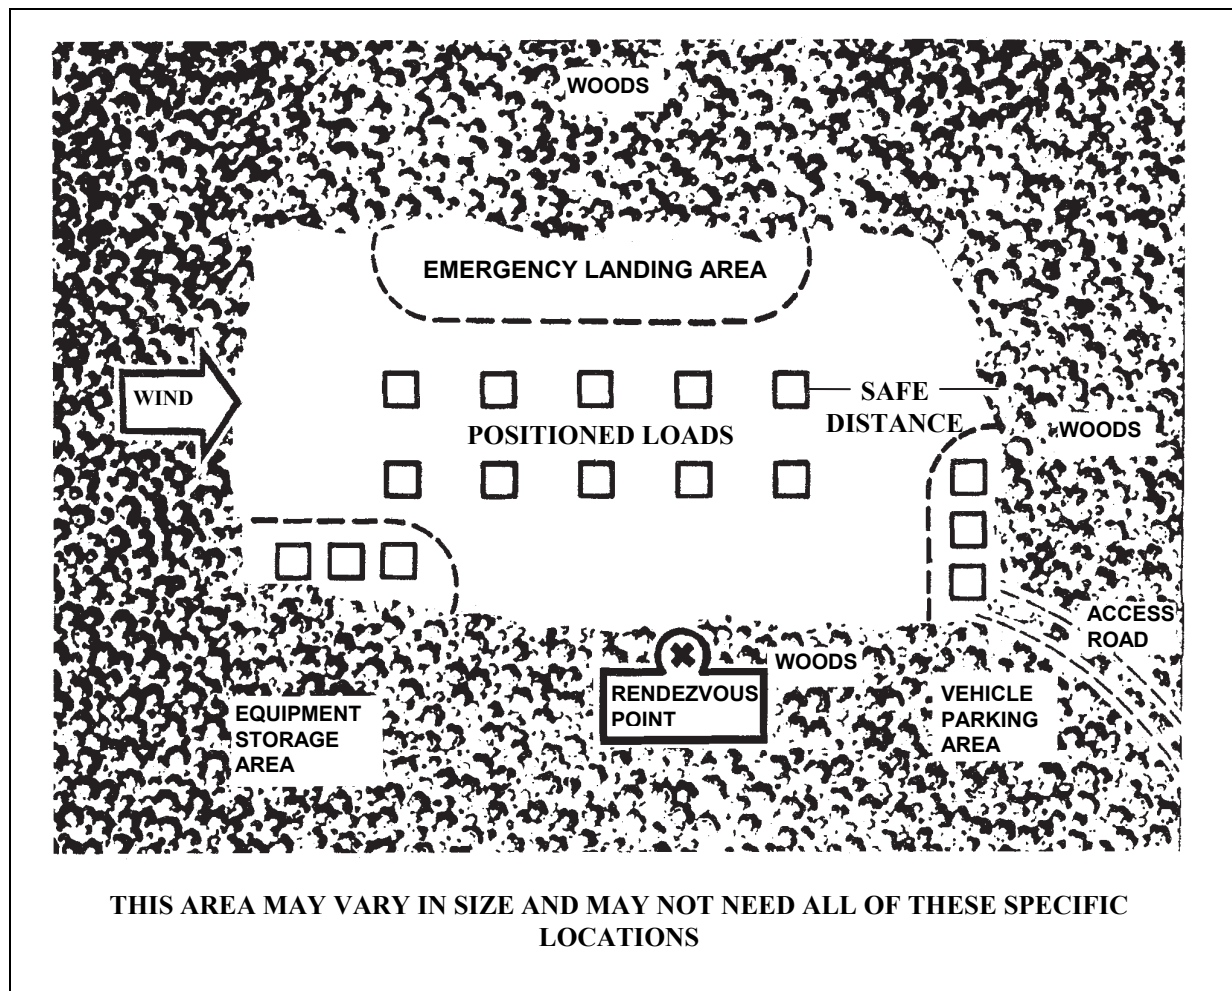

Figure 3-5. Typical Layout of a Landing Site
- **Working Area.** Ground crew personnel should make every effort to work at the side of the load closest to the rendezvous point so that during an emergency they can clear from under the aircraft without climbing over or moving around the load. Ground personnel may or may not be told to clear the aircraft by a crew member in the event of an emergency. If the pilot is able, he will rapidly flash the landing light as a visual warning to the ground crew to clear the aircraft. All personnel involved with the sling load mission must exercise sound judgment and common sense in positioning themselves so that if the load should be accidentally dragged or lifted, they can move clear immediately to avoid injury. Figure 3-5 shows a typical layout for a landing site and a good location for the emergency landing area and rendezvous point. The landing site must be policed to prevent a flying object hazard. Any object that can be lifted by the rotor wash could become a missile and cause damage to equipment or injury to personnel.